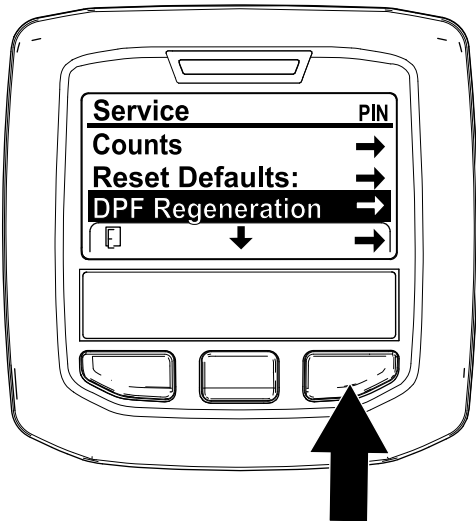

Figure 33
- 1. Access the Service menu, press the center button to scroll down to the DPF REGENERATION option (Figure 33).
- 2. Press the right button to select the DPF Regeneration entry (Figure 33).